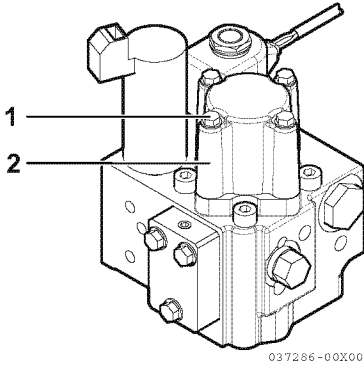

Figure 4
1. Remove four mounting bolts (1, **Figure 4**) from electric trolling valve (2, **Figure 4**).